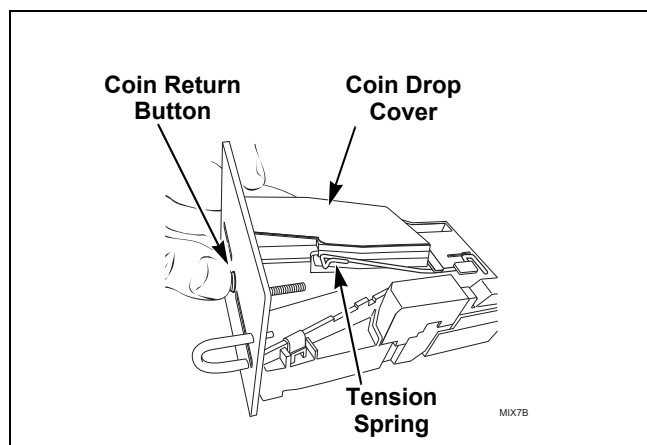
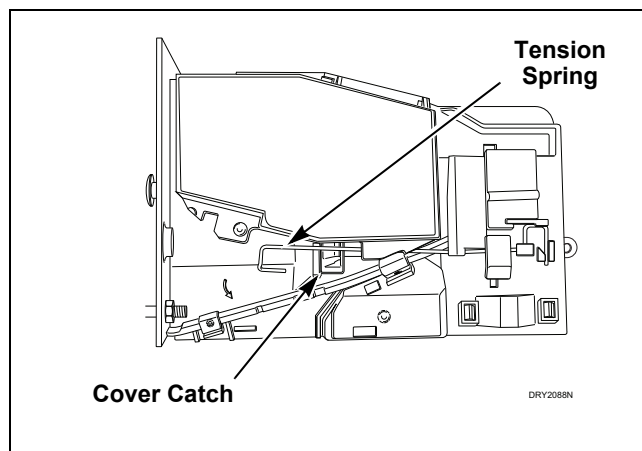

Figure 11
Figure 13
2. On electronic coin drops with an old-style tension spring (shown in *Figure 11* and *Figure 13*), test and replace tension spring using the following instructions.
1. Push coin return button to open and close coin drop cover to clear possible coin jams. Refer to *Figure 11*.
1. Move tension spring downward until cover catch is free. Refer to *Figure 13*.
16. Move tension spring over cover catch. Refer to *Figure 13*.